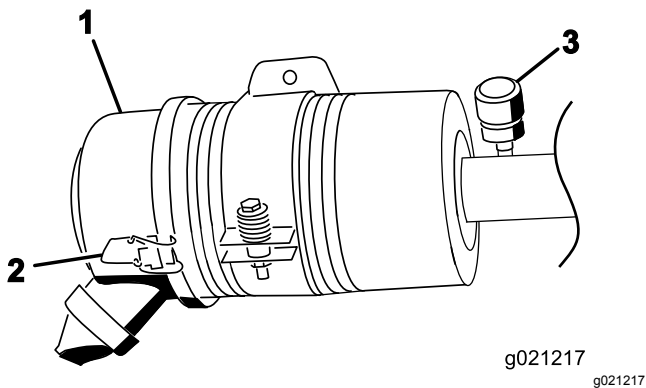

Figure 83
Service the air-cleaner filter only when the service indicator requires it (Figure 83). Changing the air filter before it is necessary only increases the chance of dirt entering the engine when you remove the filter.
3. Release the latches securing the air-cleaner cover to the air-cleaner body (Figure 83).